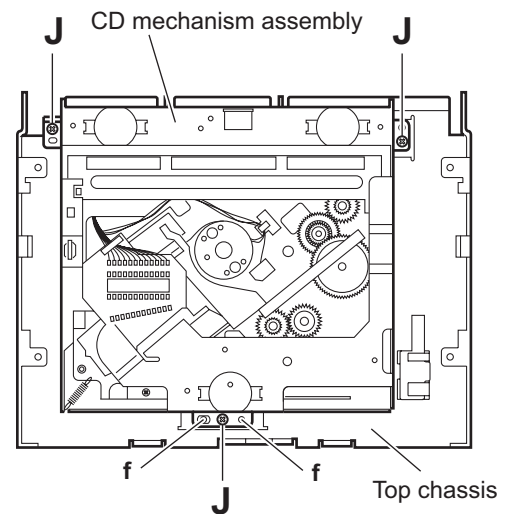

Fig.10
3.1.9 Removing the CD mechanism assembly (See Fig.10)
3.2.5 Removing the clamper assembly (See Figs.10 and 11)